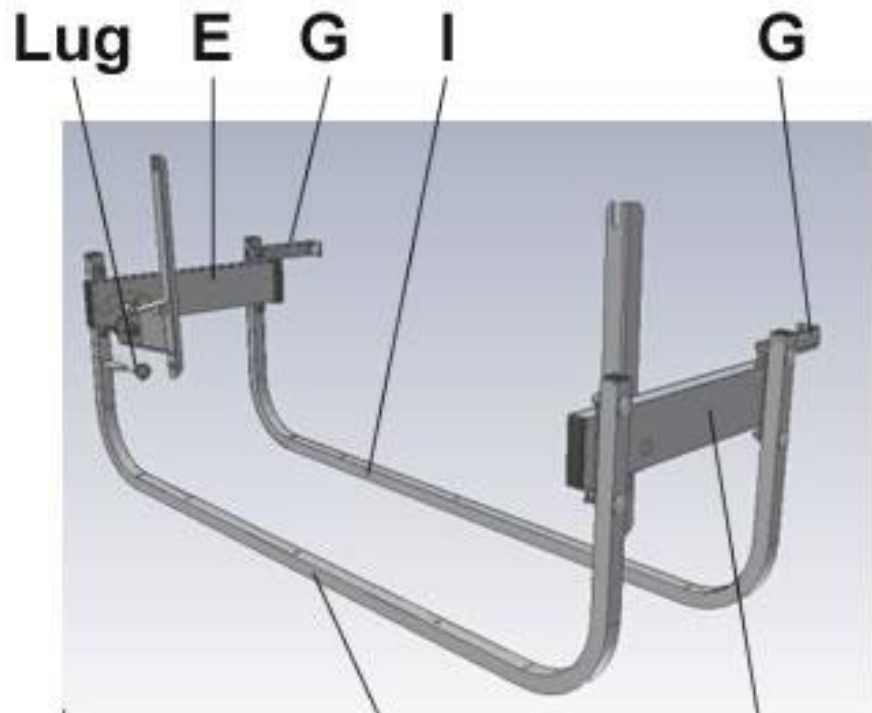

Fig 2: Bed Frame Sub-
### Bed Frame Assembly (fig 2)
2. Slide Bed Frame B over joining bars C & D until the holes in the joining bars and the holes in the frame are aligned then insert the final bed joining bolts. Now tighten all bolts.(fig 2)
3. Bolt the mattress support 'J' to the Head end of the bed frame. (fig 2)